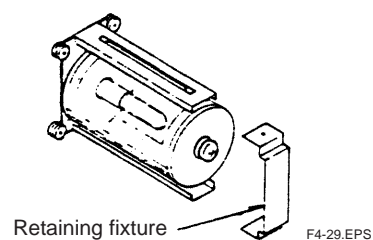

Figure 4.29
1. Remove the retaining fixture (Figure 4.29). Figure 4.29 to 4.41 explain how to replace the drying agent inside the cell at the light source side.